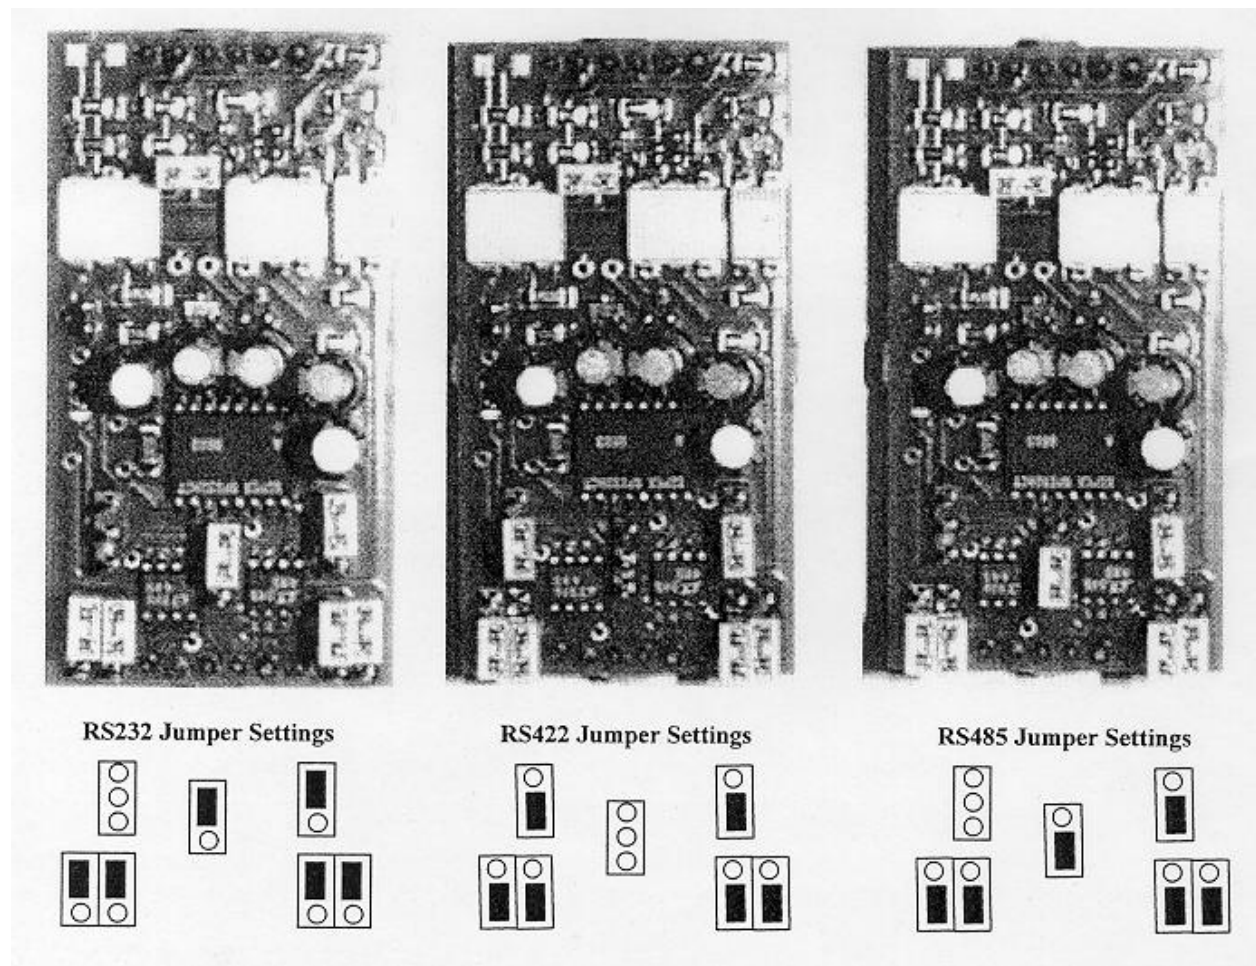

Figure 38: Communication Card Jumper Settings
4. Set the jumpers on the communication card for the desired serial communication interface based on Figure 38: Communication Card Jumper Settings.